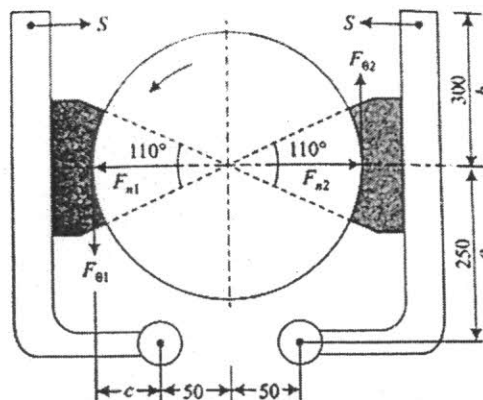

Fig 5b
- b) A double shoe brake as shown in Fig. 5b is capable of absorbing a torque of 1.5 kN-m. The diameter of brake drum is 400 mm. Angle of contact of each shoe is 110° . The coefficient of friction is 0.4. Design the brake and find the spring force necessary to set the brake. Assume normal pressure 0.2 MPa. Also design the shoe and lever by assuming the depth twice the width. Take bending stress for the lever 117.68 MPa.